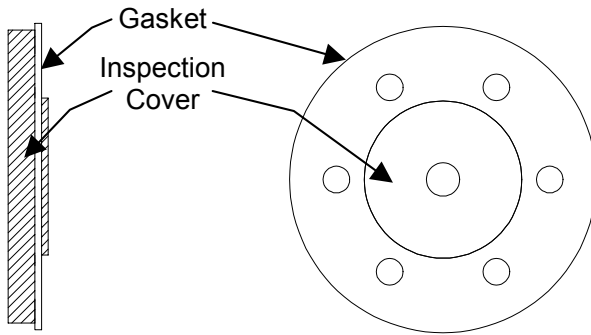
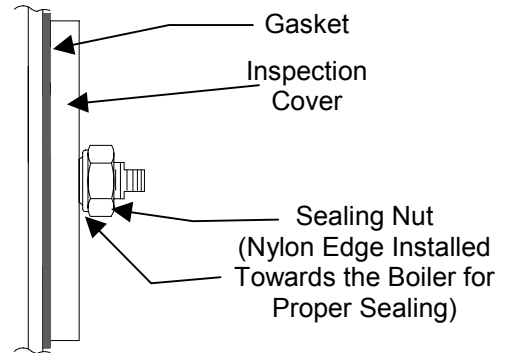

Figure 6 Gasket and Cover
Figure 7 Sealing Nut Direction
- 10) Place the gasket over the centering plug of the new inspection cover (See Figure 6). Place the inspection cover with the gasket side down, oriented as shown in Figure 6, onto the boiler brace bolt and start the sealing nut (gasket side down, see Figure 7) provided onto the bolt.
In order for the sealing nut provided to properly seal, the nylon side of the nut must be installed against the inspection plate cover (see Figure 7).
Note: If the nut bottoms out, and the assembly continues to leak even after the nut seems completely tight, DO NOT CONTINUE TO TIGHTEN. Turn OFF the main power switch, and allow the unit to cool. Remove the nut, and put a bead of high temperature silicone around the threads at the sealing surface. Reinstall the nut as shown in Figure 7. Repeat Steps 12 – 16.